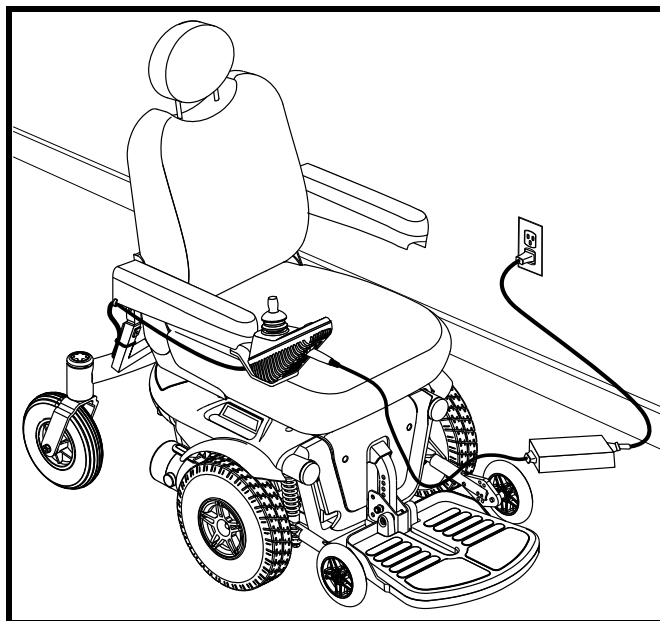

Figure 26. Battery Charging
1. Position the front of your power chair next to a standard electrical outlet. See figure 26.